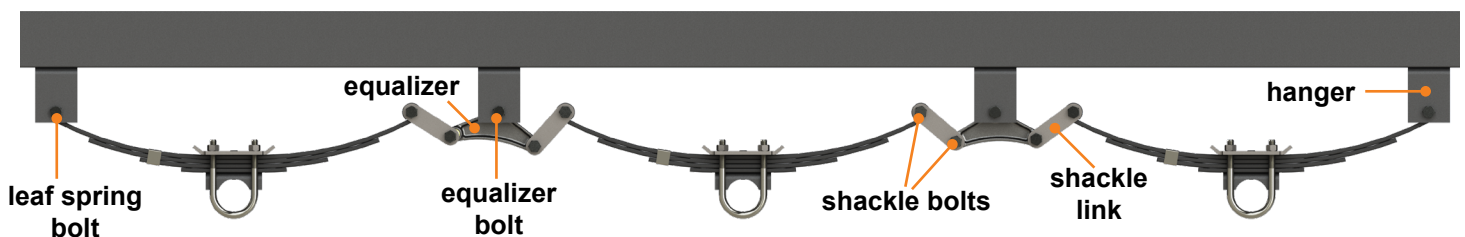

Fig.6
5. With an impact gun or an appropriate wrench, loosen both the nut on the equalizer bolt and the nuts on the shackle bolts (**Fig.6**).
7. The shackle link assembly with the shackle bolts (**Fig.6**) should be removed from the leaf spring eyelets.